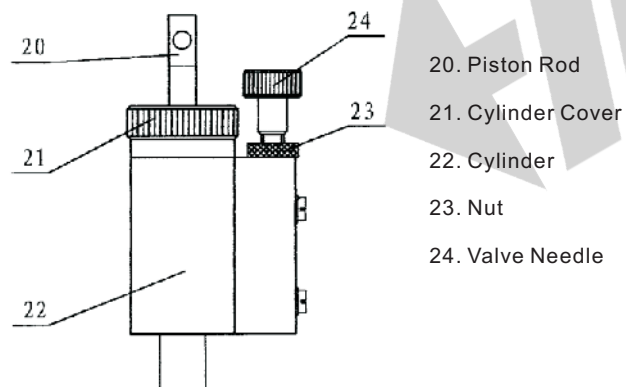

Figure 4
- 6 How to fill oil in the buffering device (figure 4):